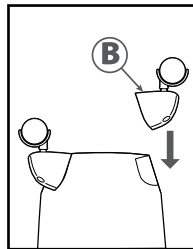
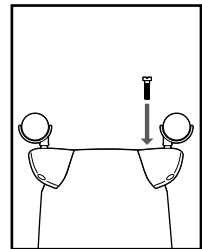

FIGURE 5
FIGURE 6
5. Take caster assembly marked with the letter **B** **(FIGURE 5)** and place in the slot on right side of the tank, also marked with the letter **B**. Secure with screw provided. **(FIGURE 6)**